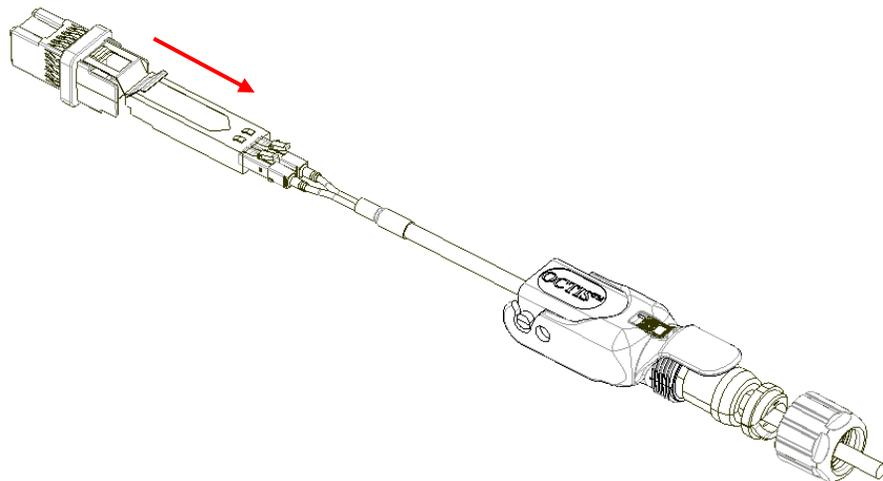

Figure 9A
4. Insert the holder subset kit from the front end of transceiver fitted cable side. (Fig 9A & 9B)